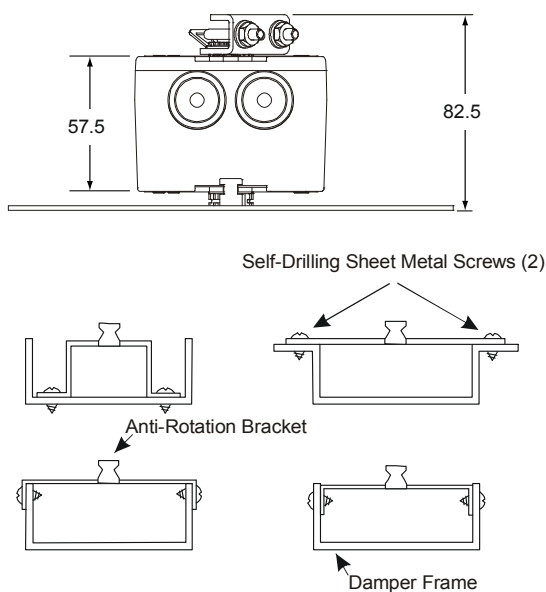

Figure 5: Anti-rotation Mounting Bracket Positions
2. Bend or cut the anti-rotation bracket to fit the damper frame or duct as illustrated in Figure 5.
5. Slide the actuator onto the damper shaft, and position the anti-rotation bracket tab into the slot at the bottom of the actuator as illustrated in Figure 5.